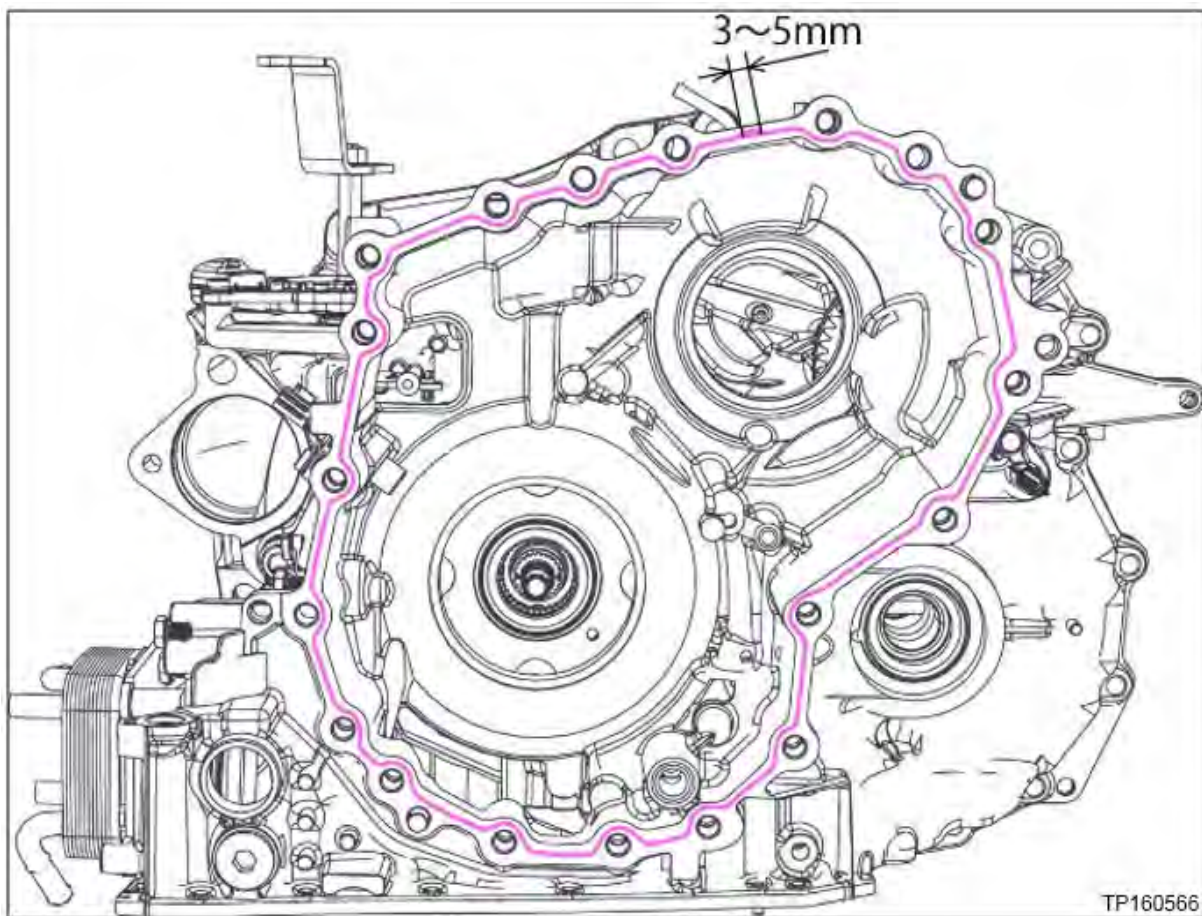

Figure 112
85. Apply one continuous 2.0 mm diameter bead of sealant along the center of the CVT case side mating surface (Figure 112).